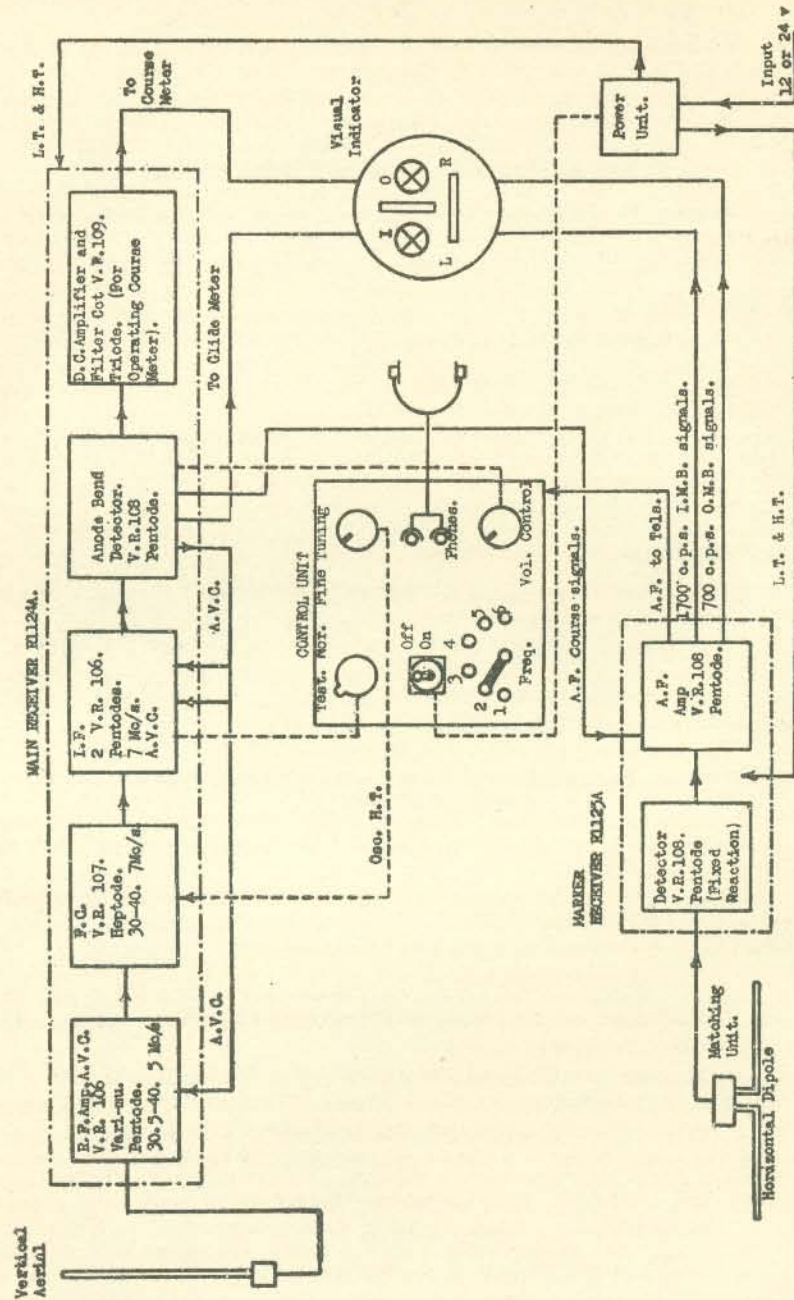

Fig. 88.—Block diagram beam approach aircraft equipment.
7. **Circuit** (the block schematic diagram (fig. 88) indicates the general principles of the equipment).—(i) R.1124A; the aerial, R.F. anode, F.C. grid and oscillator circuits are each tuned by six pre-set condensers (24 condensers in all).